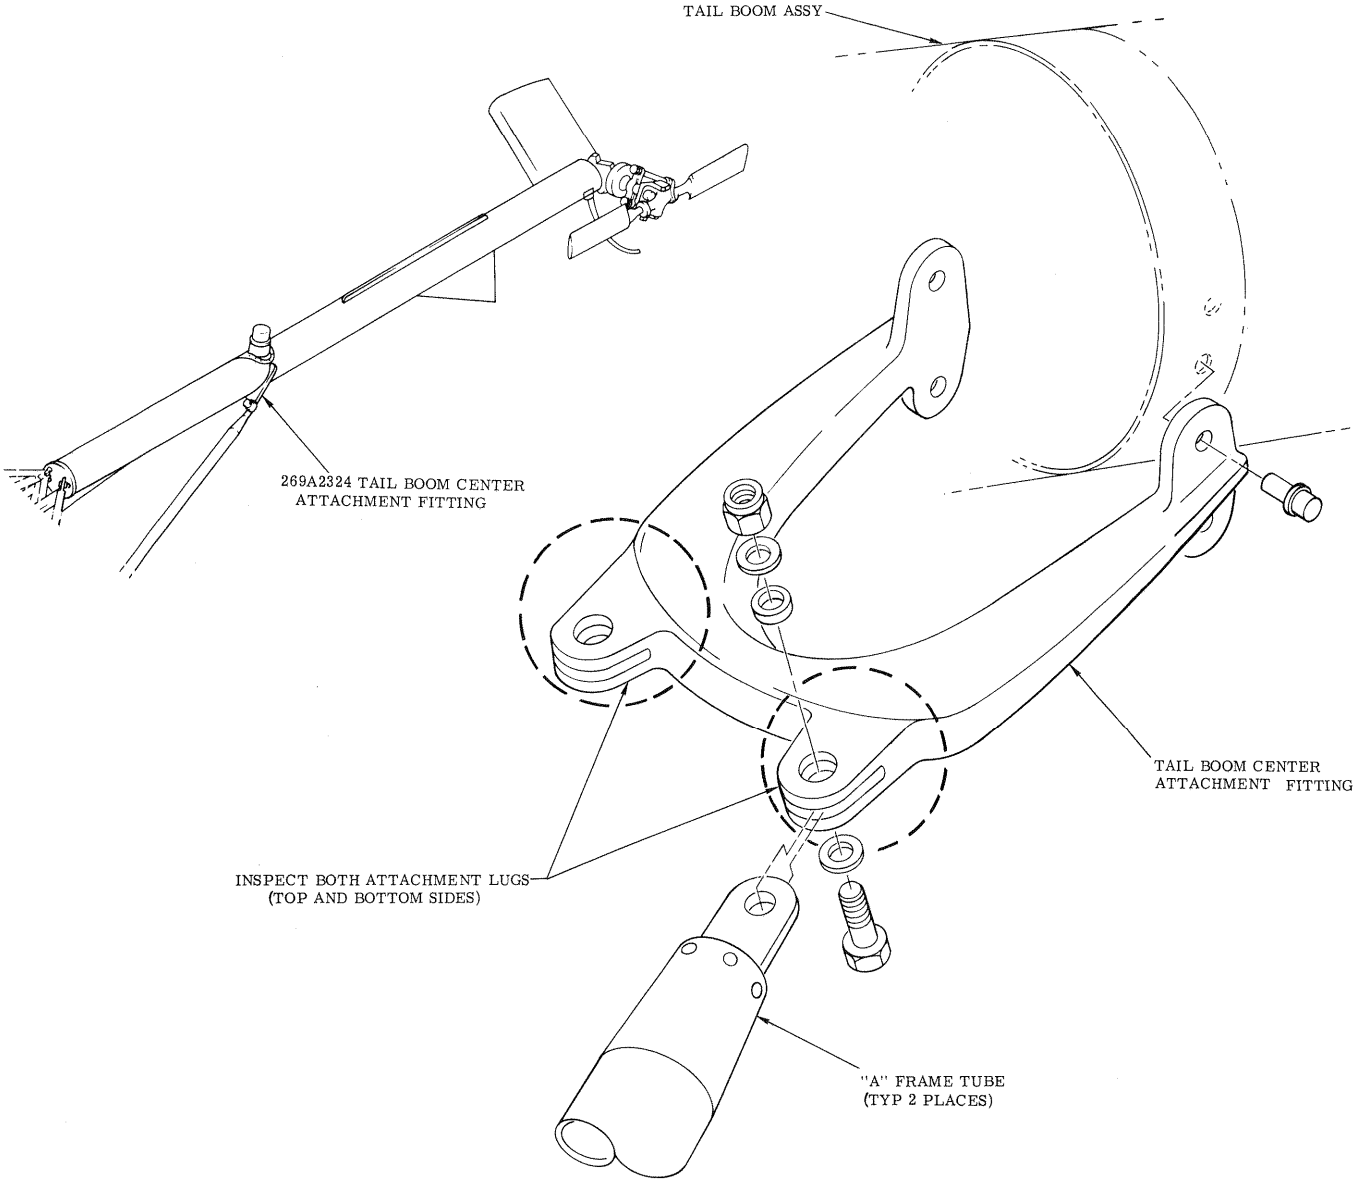

FIGURE 1. INSPECTION - TAIL BOOM CENTER ATTACHMENT FITTING
a. Visually inspect center attachment fitting for evidence of cracks, damage or deformation; pay particular attention to attachment lugs securing fitting to "A" frame tubes. (See Figure 1)
a. Dye penetrant inspect center attachment fitting for evidence of cracks; pay particular attention to attachment lugs securing fitting to "A" frame tubes. (Refer to Figure 1)